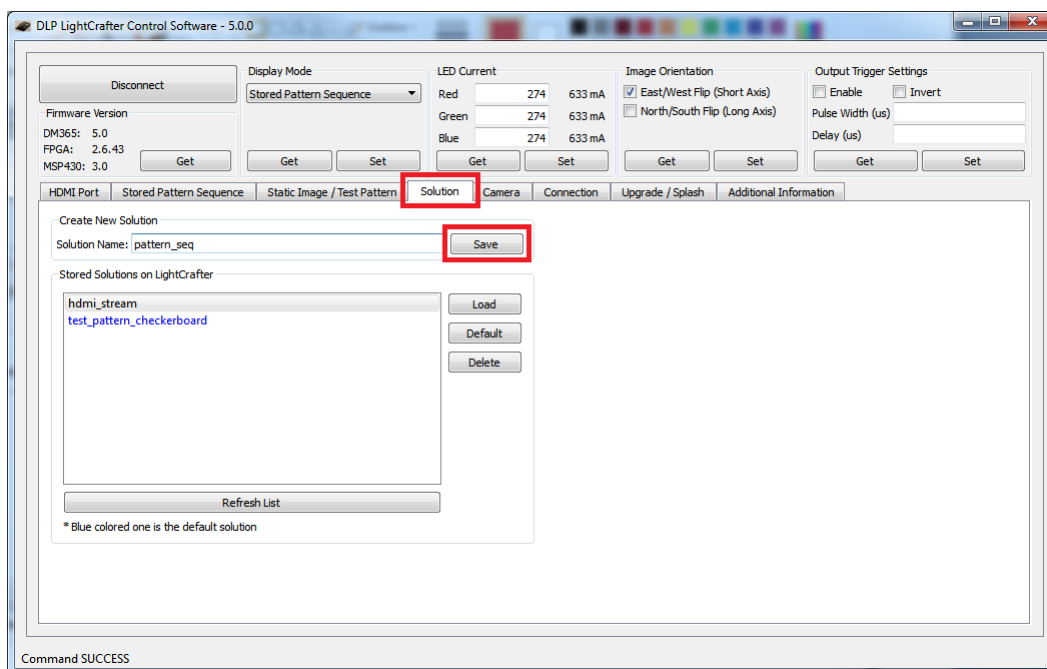

Figure 2-53. DLP LightCrafter GUI Solution Tab
2. Click on "Solution" tab as shown in Figure 2-53.